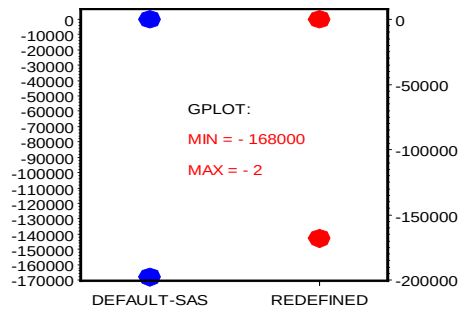
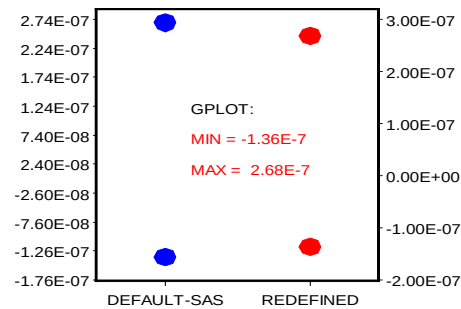
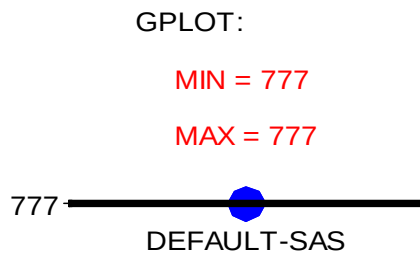
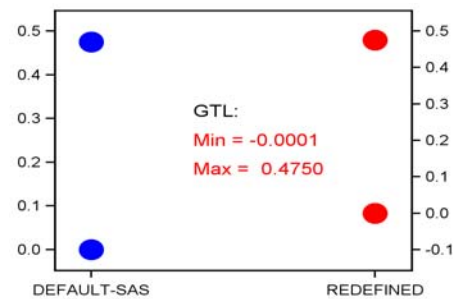

Figure 1. Too Many Major Ticks
Figure 2. Tick Values are Strange
Figure 3. Plot Shrinks to a Line
Figure 4. Only non-negative order produced for data with negative values
Default axis ordering mechanism for SAS procedures like GPLOT, GCHART often generate undesirable axis tick value list. For example, the major tick numbers are too many [Figure 1] or the tick values looks really strange [Figure 2]. It is usually a tedious work for programmer to revise the axis tick ordering, especially when you generate many graphs through macro or generate graph on changing data. Even for fixed data, since the axis ordering is decided by both graph size and tick value font size, changing one will sometime result in change on both graph ordering and potentially the plot itself. It might take a lot of effort to recover to original format for such undesirable changes. This paper presents a new axis ordering mechanism through a SAS macro. Generally, a minimum of four to eight major ticks will be generated based on data value range by using step of 1's (... , 0.01, 0.1, 1, 10, 100,...), 2's or 5's. Enhancements on the axis ordering are illustrated through examples from SAS procedures like GPLOT and SAS 9.3 Graph Template Language [GTL].
- Too many major tick numbers for axis ordering and make the axis looks crowded (Figure 1).
- Major tick value list looks strange (Figure 2).
- If data has only one data point and option "`label = none`" is applied, graph shrinks into a single line (Figure 3).
- If the scale for negative data and positive data are not the same, for example, negative part is too small, and positive part is too big, only non-negative or non-positive order is generated. This might be misleading to reviewers that all data are non-negative or non-positive (Figure 4).
This paper proposes mathematical logics to redefine more desirable axis ordering to simplify programming activities. Enhancements are illustrated with examples in Figure 1 to Figure 4. Procedure [GCHART or GTL] used for graph generation. Methods applied [GTL or GCHART], together with the Min and Max for order calculation are annotated on graph. Except for Figure 3, which is generated using SAS default for single data point with axis option `label = none`, all other plots have two overlay plots with left vertical axis on SAS default ordering and right vertical axis on user defined ordering by using %ORDER macro.